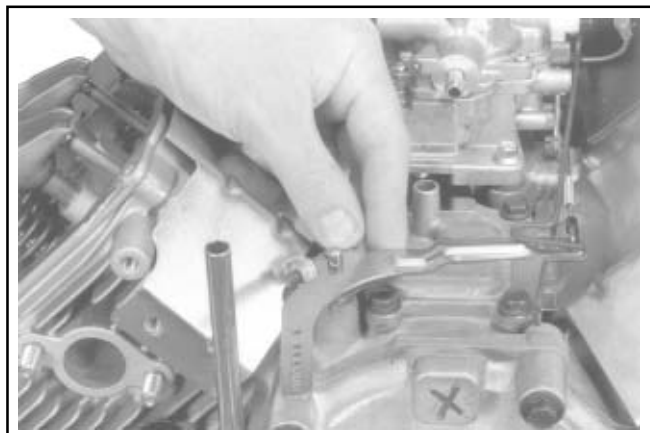

Figure 11-77. Install Governor Lever to Shaft.
1. Install the governor lever onto the governor cross shaft. See Figure 11-77.